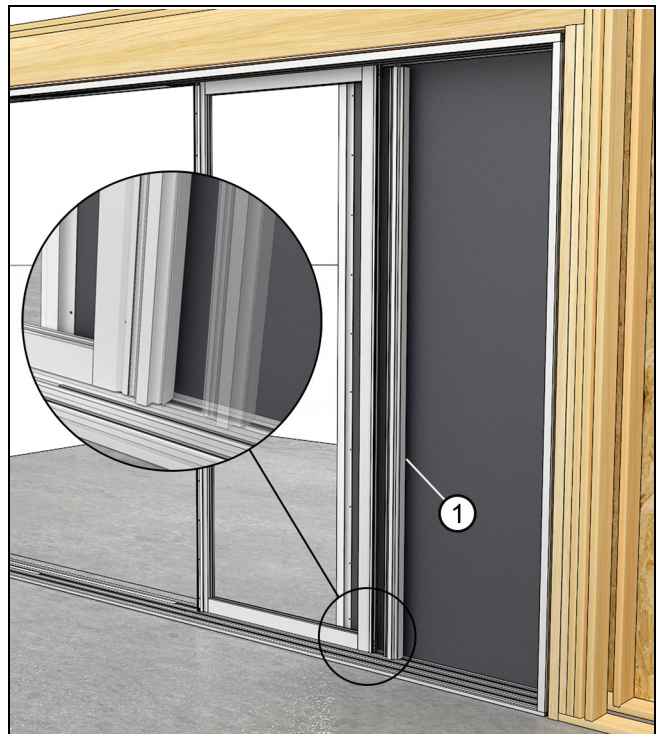
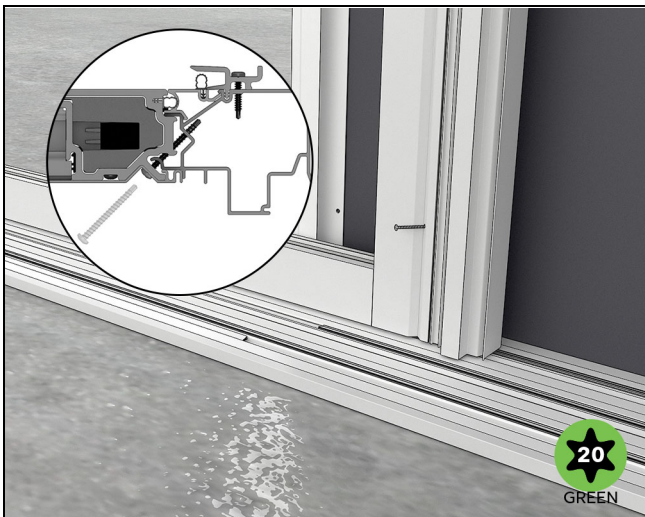

Figure 97
Figure 98
1. Attach pocket support block to the stile of the pocket panel. Fasten through the pre-drilled holes in the top and bottom with the #8 x 1 3/4" (44) self drilling screws. (Bag with the green dot). Make sure the support block is flush to the bottom of the panel. See Figure 97 and Figure 98.